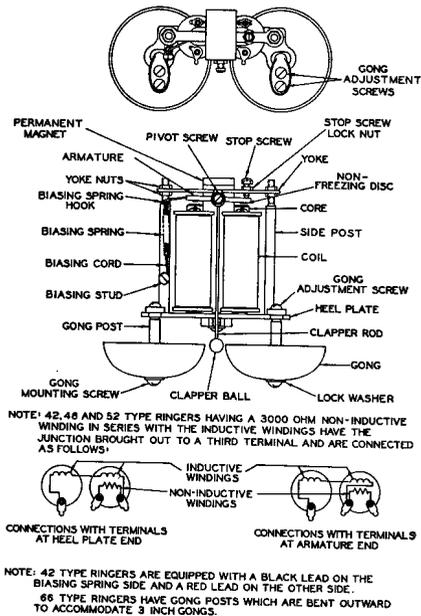

Fig. 1 - Typical Numbered Ringers
- 1.02 Each ringer consists of a cast, non-magnetic, alloy frame on which all the component parts are mounted. A typical ringer is illustrated in Figure 1. A laminated soft-iron core carries the single coil and is clamped to the frame. The armature and clapper assembly is spring mounted to the frame so that the clapper may be vibrated by the armature, due to the magnetic field produced by the coil and yoke, to strike the gong(s). Increased sensitivity is provided by biasing the armature by means of a small permanent magnet clamped in the frame. A mechanical volume control is fitted on most types of ringer so that the user may adjust the sound output level. The coil is provided with flexible wire leads for connection to the other components in the telephone.